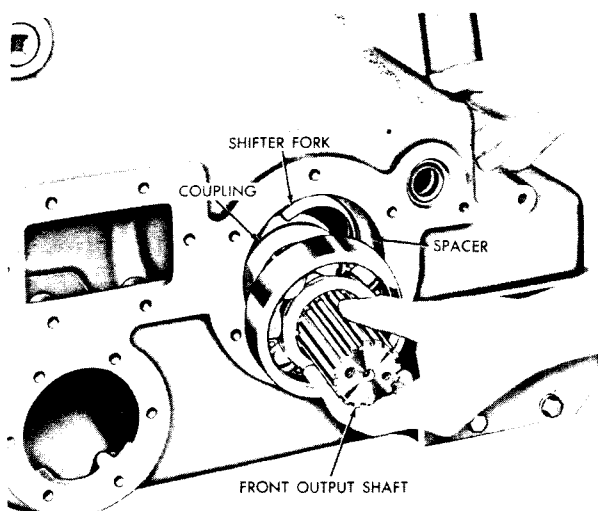

Fig. VII-7. Installing (or removing) front-output shaft and related components S2505
(20) Install the shifter fork into the housing (fig. VII-7).
Hold the shifter fork (by reaching into the housing access hole) and install the assembled front output shaft. Engage the groove in the coupling with the shifter fork (fig. VII-7).
Note: The spacer illustrated in fig. VII-7 must be installed previous to installing the output shaft in those assemblies which include a heavy-duty shaft.